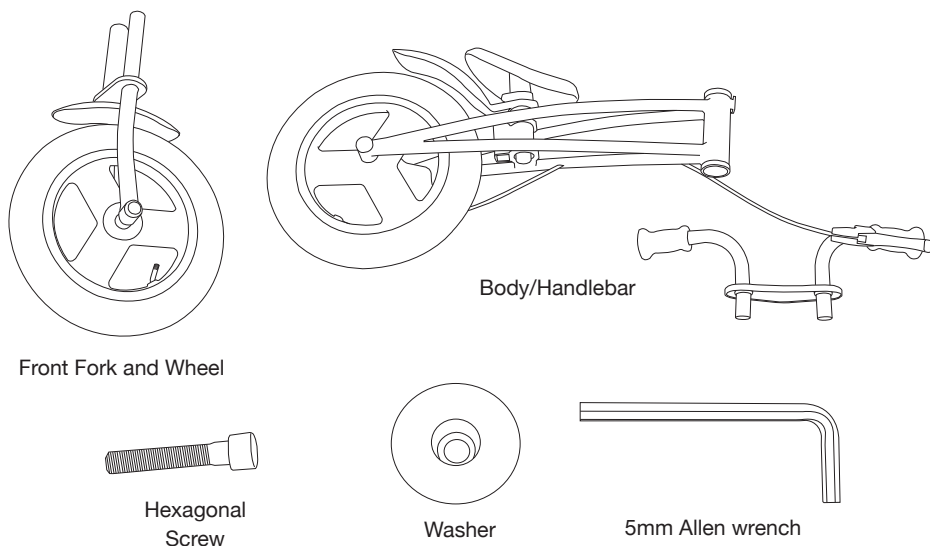

Figure 1
- Identify the parts (front fork and wheel, body/handlebar, hexagonal screw, washer, 5mm Allen wrench, and documents [not shown]) with the pictures in Figures 1.